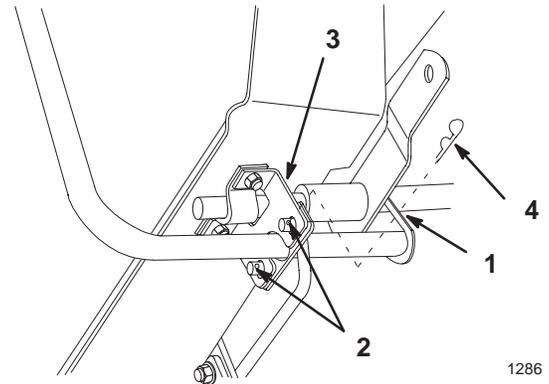

Figure 17
19. Hook the end of the crank handle support over the cross shaft (Fig. 17).
20. Rotate it to align the pins with the holes in the handle bracket and secure it with 2 hairpin cotters (1-7/8 in.) (Fig. 17).